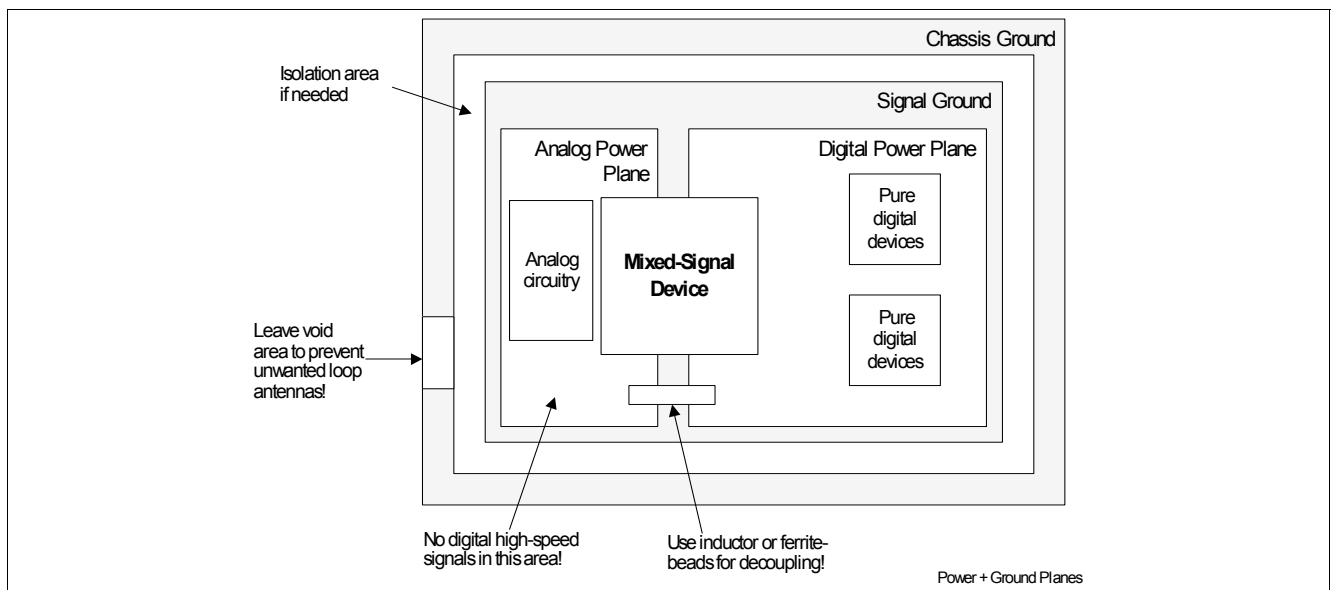

Figure 20 Analog Power Plane
- Divide the +3.3 V and the +1.5 V power plane into a minimum of two sections (as shown in Figure 20) to separate the digital (VDD15, VDD33) from the analog power supply (VDD15A, VDD15B, VDD15AB, VDD33AB).